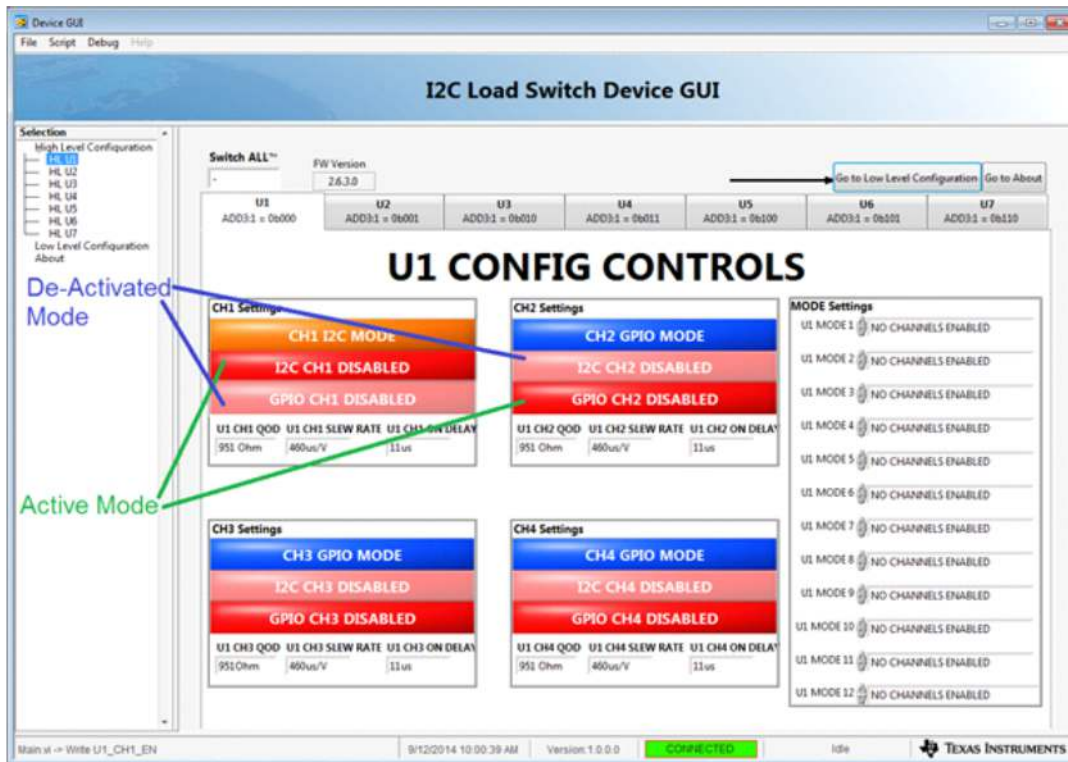

Figure 8. Set GPIO Mode or I2C Mode on Different Channels
- (A) The CHx GPIO Mode/I2C Mode Control will set the channel on that specific device to respond to either the GPIO Enable Pin or the I2C EN register bit. See Figure 8 showing CH1 and CH2 of U1 are set to the 2 different modes.
- (B) Also the disable/enable control for the alternate mode will become inactive to the user. In Figure 8, I2C CH1 Disable is pink which indicates this does not have an effect on the output of CH1 and this is the same for GPIO CH2 Disabled; the user will not be able to change the value on the high level page until the channel mode selection has been changed. Figure 8 shows the controls that are active and de-activated for CH1 and CH2.